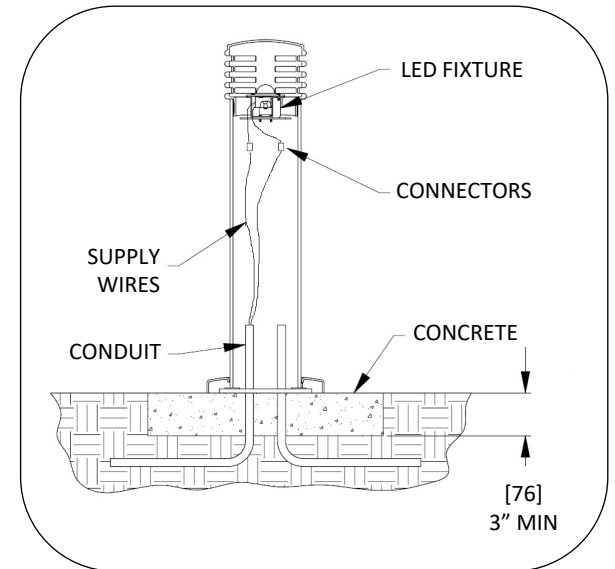

FIG. 6 - SURFACE MOUNT BOLLARD WITH LED LOW VOLTAGE LIGHT DETAIL
2. Place bollard in the desired position and mark hole locations. See Fig. 6.